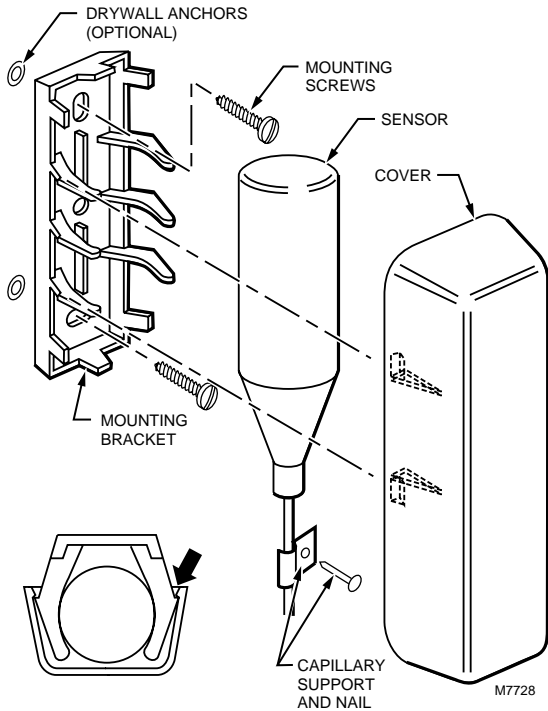

Fig. 7. Remote mounting of T5086C Thermostatic Actuator sensor.
4. Use fasteners and nails provided in the accessory bag to secure the capillary from the remote sensor/setpoint location to the valve body location. The capillary loop shown in Fig. 7 provides strain relief to allow the capillary loop freedom to move.